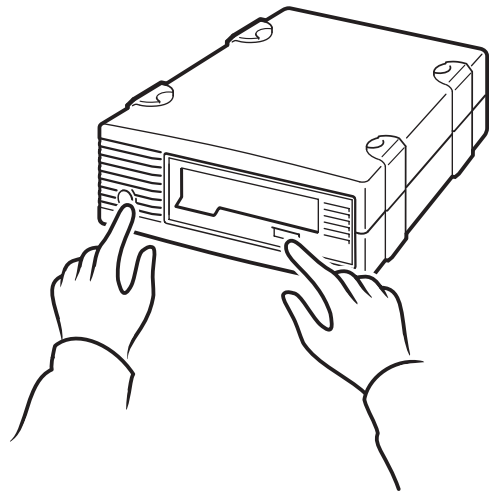
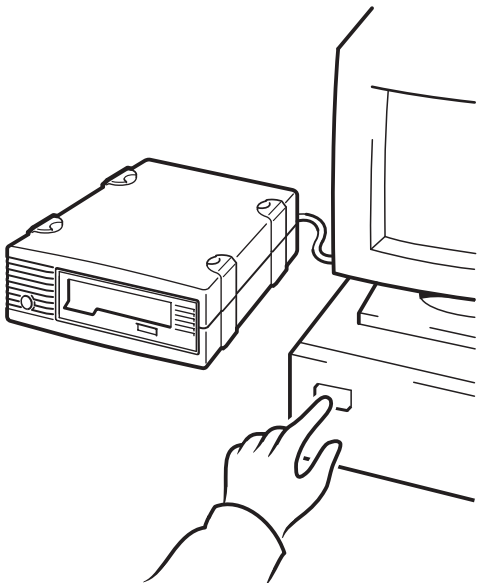

Figure 10b: using HP OBDR, step 2
Figure 10c: using HP OBDR, step 3
- 2 Hold down the eject button of the tape drive. Keeping the eject button pressed down, power on your tape drive (see Figure 10b) and switch on your server (see Figure 10c). This activates the HP One-Button Disaster Recovery process. Release the button as soon as the Ready LED on the front panel flashes in the OBDR sequence. This is a repeated pattern of: flashing-steady on-flashing.